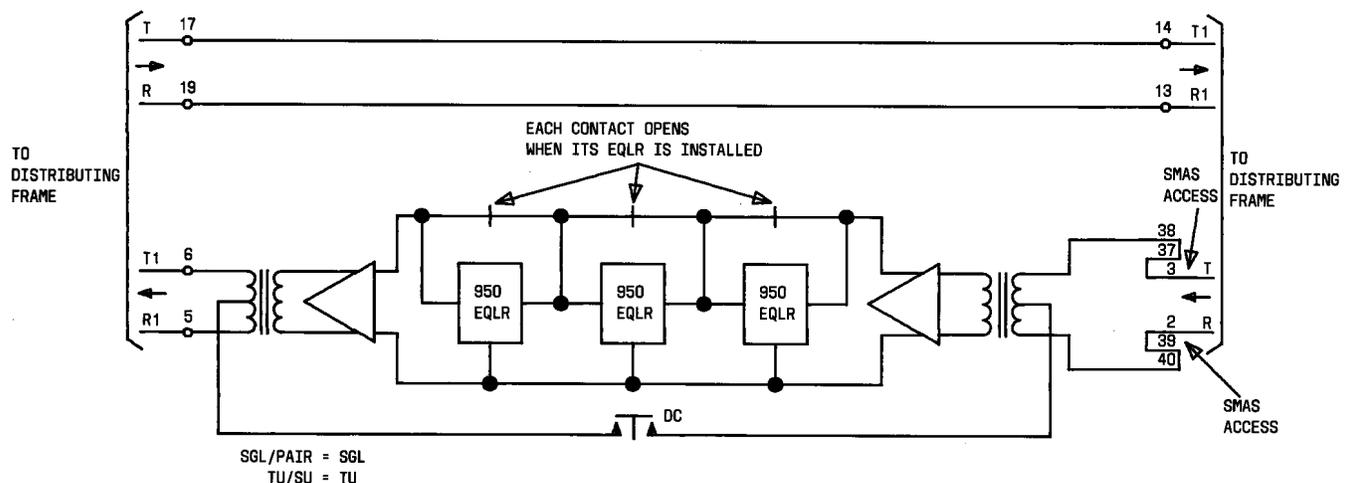

Fig. 2—Block Diagram of Single VFADE
3.01 The J99343SN VFADE is configured like an MFT 4-4 repeater. The block diagram in Fig. 2 represents a single VFADE in a single-module mounting or the transmission unit slot of a double-module mounting. A direct connection is provided by the printed wiring board between